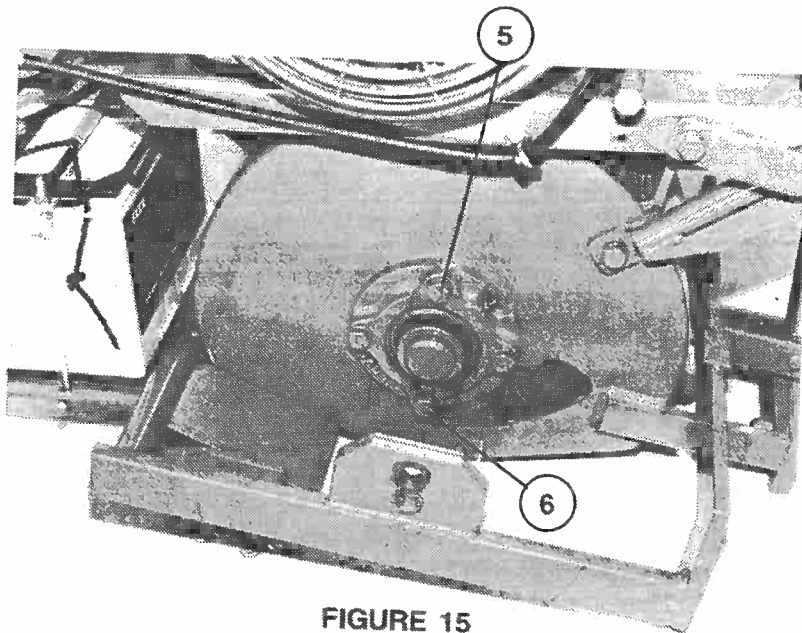

FIGURE 15
7. Lift handle to set machine flat on ground, (see Figure 15) then remove top three cap screws [5] in each of the two main shaft bearings. It is not necessary to remove bottom cap screw [6] in each bearing but leave it intact.